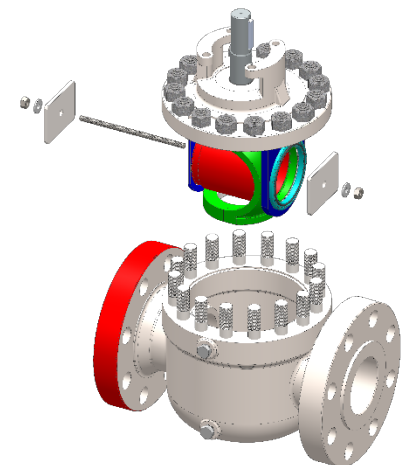

Figure 2: Installation Tool
9. *[Flow Control cartridge only]* Attached the installation tool to the replacement cartridge as shown in Figure 2. Tighten the nuts onto the threaded shaft until the cartridge assembly is compressed by approximately .060" (1.50 mm).